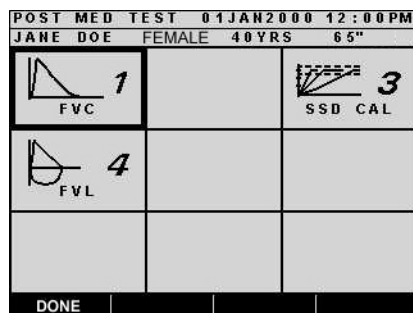

Figure 27: Post Med Test Screen
2. Press the *YES* soft key. The display heading changes to "POST MED TEST" (Figure 27), and the test options appear just as they did for the "PRE MED TEST" screen. The only test options appearing on the "POST MED TEST" screen are those previously performed in Pre-Med testing.